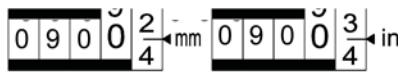
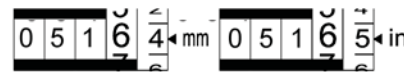

Fig. 4.7
Fig. 4.8
b) The reading in Fig. 4.7 is 0.9003" or 9.003mm and the reading is 0.5165" or 5.164mm in fig. 4.8.